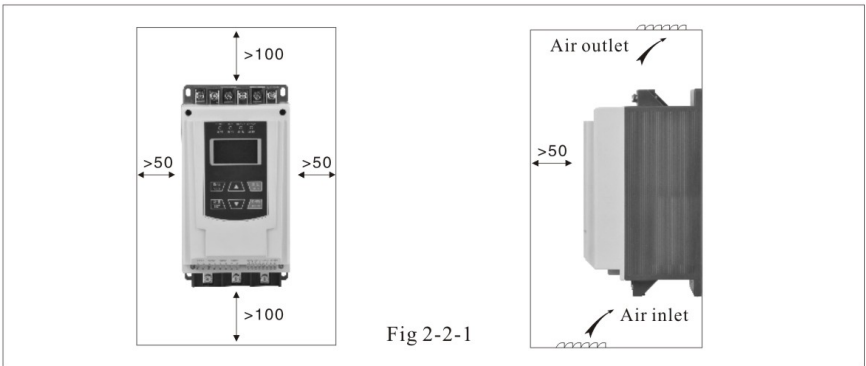

Fig 2-2-1
- ① The soft starter should be vertically install, please don't reversely install, incline install or horizontal install. Should use screws to firmly install on the firm structure.
- ②The soft starter will generate heat when running, need design to remain a certain space shown as figure 2-2-1 to make ensure smooth cooling air. The generated heat upward send out, so don't install it under the equipment which not anti heat.